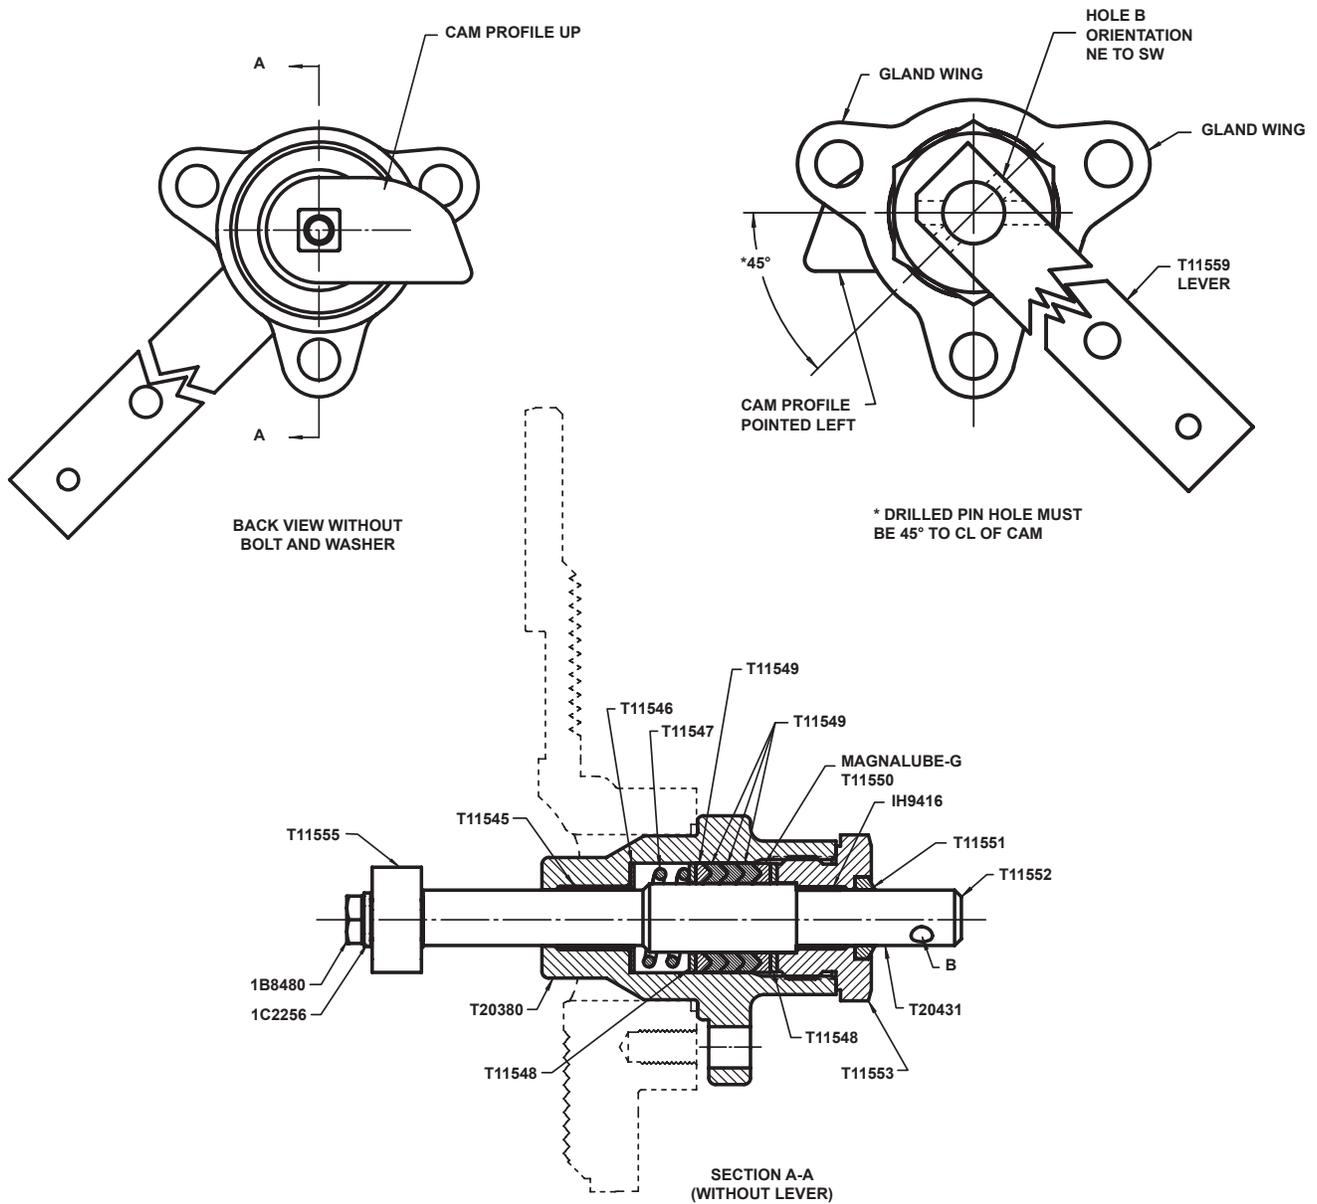

Figure 4. Stub Shaft Orientation
Numbers in parenthesis refer to key numbers in Figures 4 and 6.
9. Orient cam and stub shaft (See Figure 4)